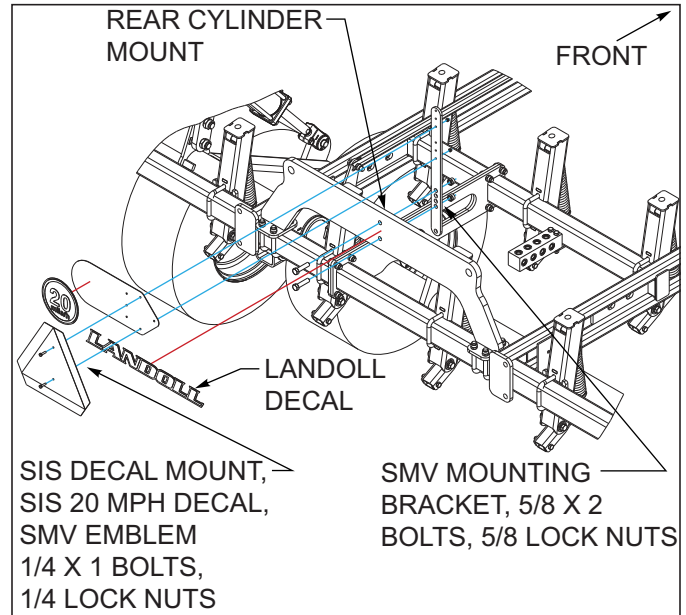

Figure 3-23: SMV Mount Assembly
11. Attach the SMV mounting bracket to front side of rear cylinder mount with 5/8 x 2 bolts and 5/8 lock nuts *See Figure 3-23.*